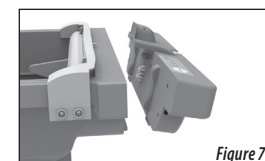

Figure 7
7. Locate the Detachable Motor and align the tabs with their corresponding slots on the back of the Litter Tray, as shown in Figure 7.